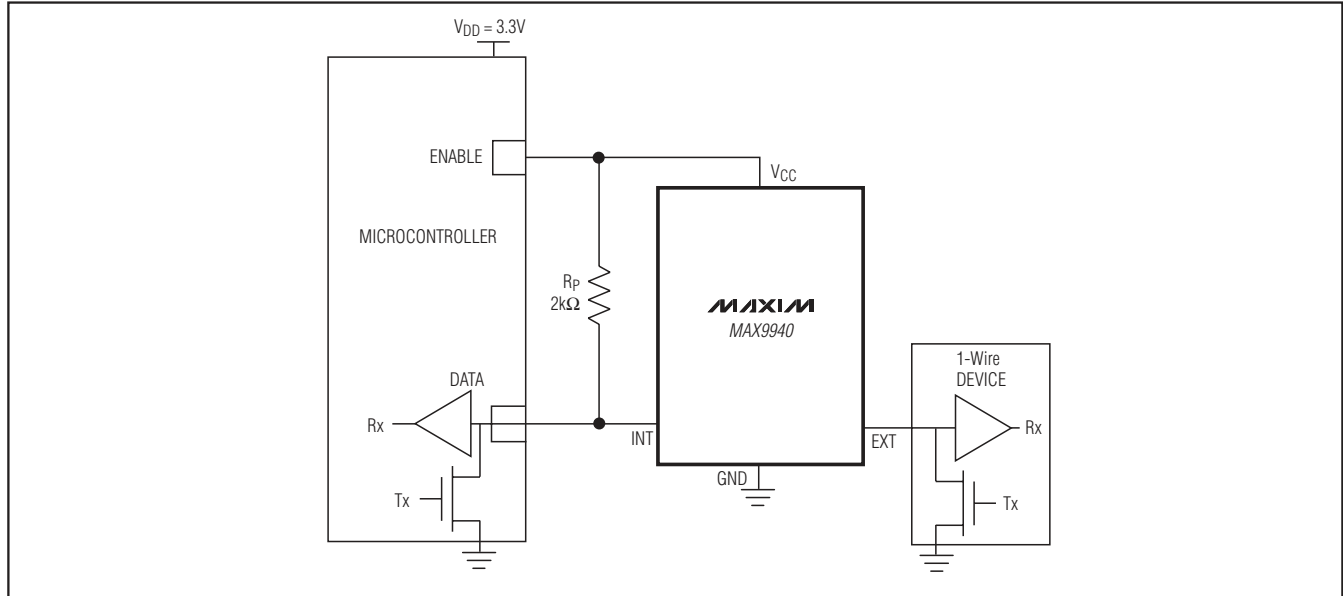

Figure 1. Recommended Scheme for Battery-Operated Devices that Need to Shut Down the MAX9940 and Prevent Power Draw During Short to GND Faults
Figures 1 and 2 show two methods of powering the MAX9940 from an ENABLE digital output port of the microcontroller. Figure 3 shows the conventional method of operating the MAX9940 with both pullup resistor for digital communication on DATA (RP) and V_{CC} being connected directly to V_{DD} of the microcontroller.
Figure 1 shows a recommended configuration for battery-operated devices that need to conserve power both on a continuous basis as well as during short to GND fault conditions. In this scheme, the ENABLE port of a microcontroller supplies the quiescent current for the MAX9940 as well as that required for digital communication (i.e., R_p pullup resistor). By forcing a 0 on the ENABLE digital output port of the microcontroller, the MAX9940 is in a zero-power shutdown mode, while also preventing any power drain to occur in the event of a short to GND fault on EXT. As stated earlier, EXT maintains the ability to withstand DC voltages up to 28V even when $V_{CC} = 0$.